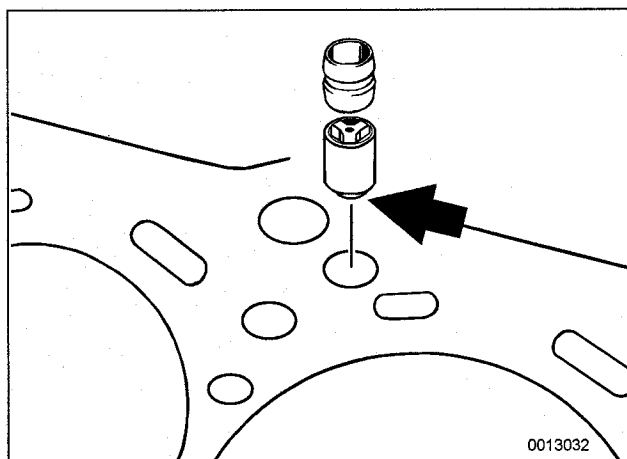

Fig. 16. Oil feed check valve and spacer used on M42 engine. Install check valve with collar (arrow) facing down.
3. On M42 engine: Be sure oil feed check valve and spacer are correctly positioned in block. See Fig. 16.